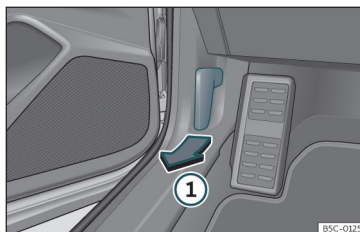

Fig. 201 Release lever in the driver's footwell area.
- Open the door and pull the lever under the dashboard» **Fig. 201 ①**.